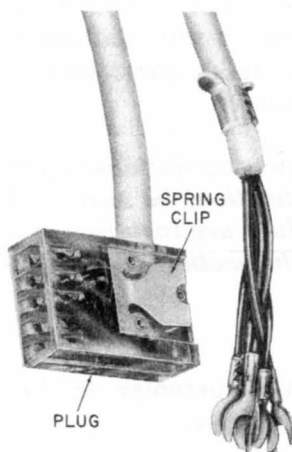

Fig. 7—D5AL Mounting Cord
3.07 Insert the plug end of the D5AL or D5AN mounting cord (Fig. 7) into the jack located on the underside of the base assembly. ***Make sure that the spring clip of the plug snaps into place to secure the plug.*** Lay the cord in the cord channel and slide the cord retainer over the cord.